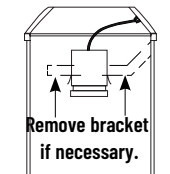

Figure 1
2. If necessary, remove medium-base mounting bracket only to provide room for fixture to be installed fully and properly into the housing. (Figure 1)